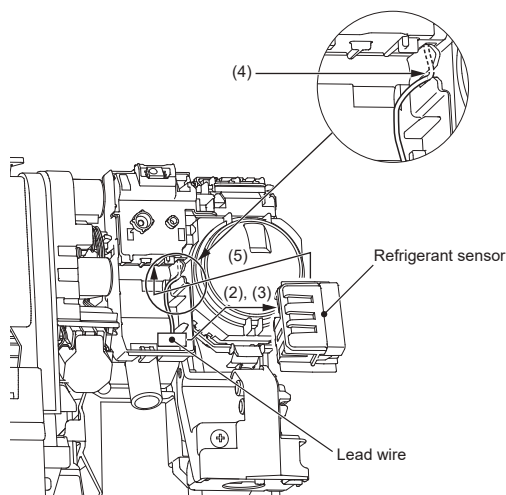
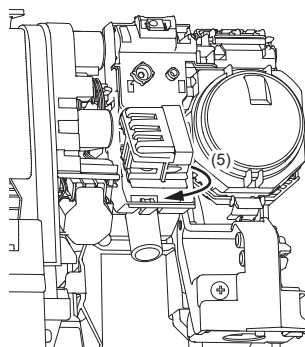

Fig. 1
Fig. 2
- (1) Remove the panel right assembly.
- (2) Take out the lead wire. (Fig. 1)
- (3) Connect the lead wire to the refrigerant sensor. (Fig. 1)
- (4) Push the lead wire into the slit so that the refrigerant sensor does not press it.
- (5) Install the refrigerant sensor as shown in the figure. (Fig. 2)